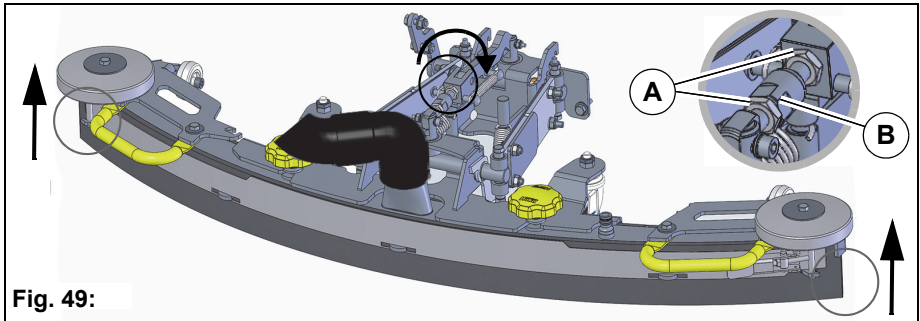

Fig. 49:
2. Loosen the lock nuts **Fig. 49-A** and turn the adjusting bushing **Fig. 49-B** to adjust the squeegee so that the ends of the sealing strips barely have contact with the ground.
The distance of the sealing strip to the ground increases at the ends **Fig. 49**.